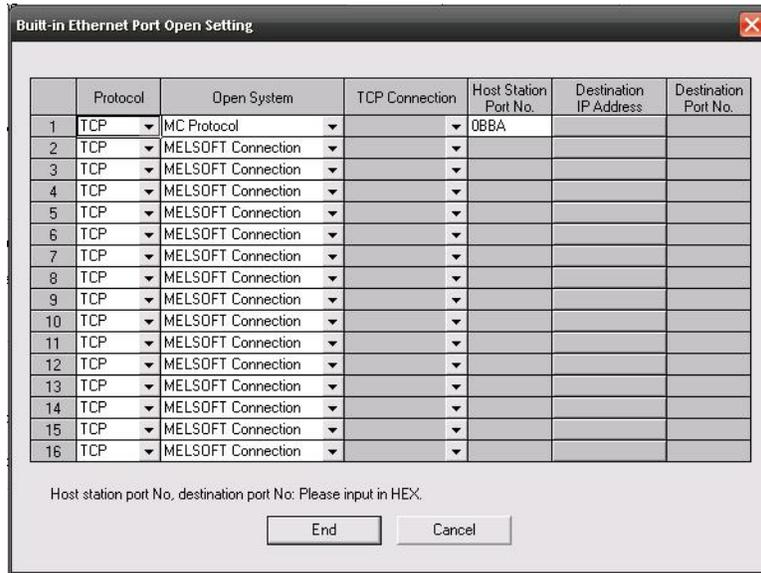

Figure 6.
5. Referring to Figure 6, configure a connection with the following parameters: